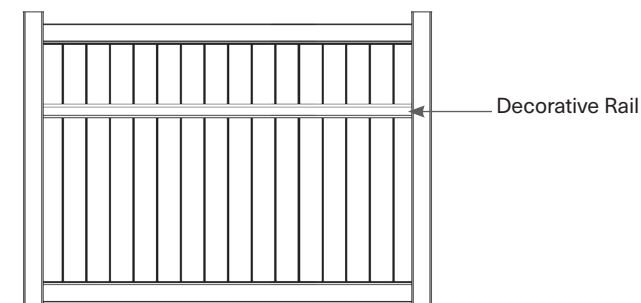

Figure 12
- Attach two aluminum side rails on both sides of the gate (Figure 12).